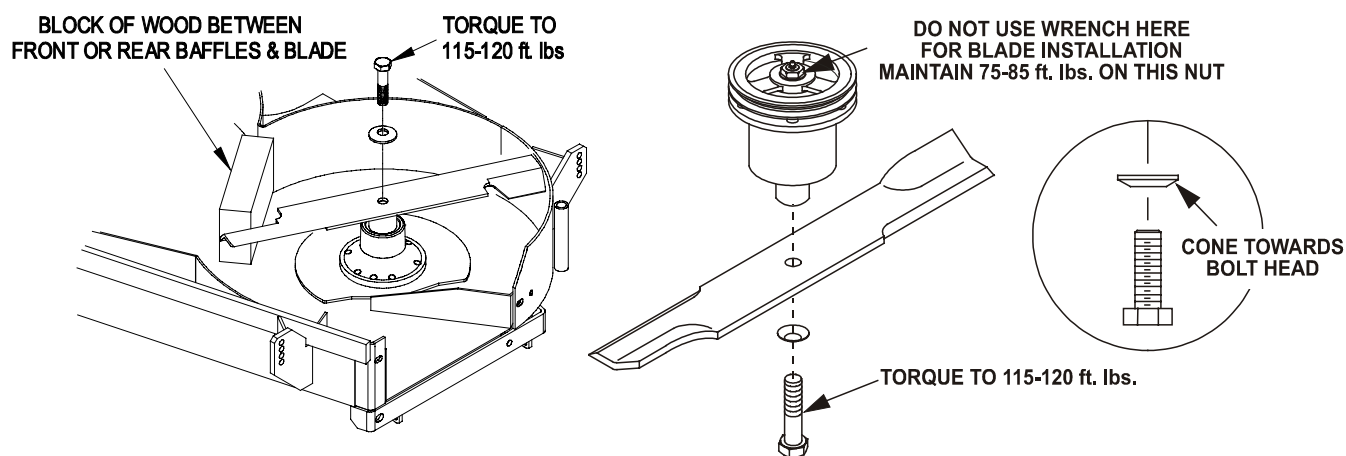

FIG. 7
- d) Re-install the blades (if they were removed) by placing a block of wood between the front or rear baffles and the blade then torquing the blade bolts to 115-120 ft. lbs. Be sure the spring disk washer cone is installed toward the bolt head (See Figure 7).